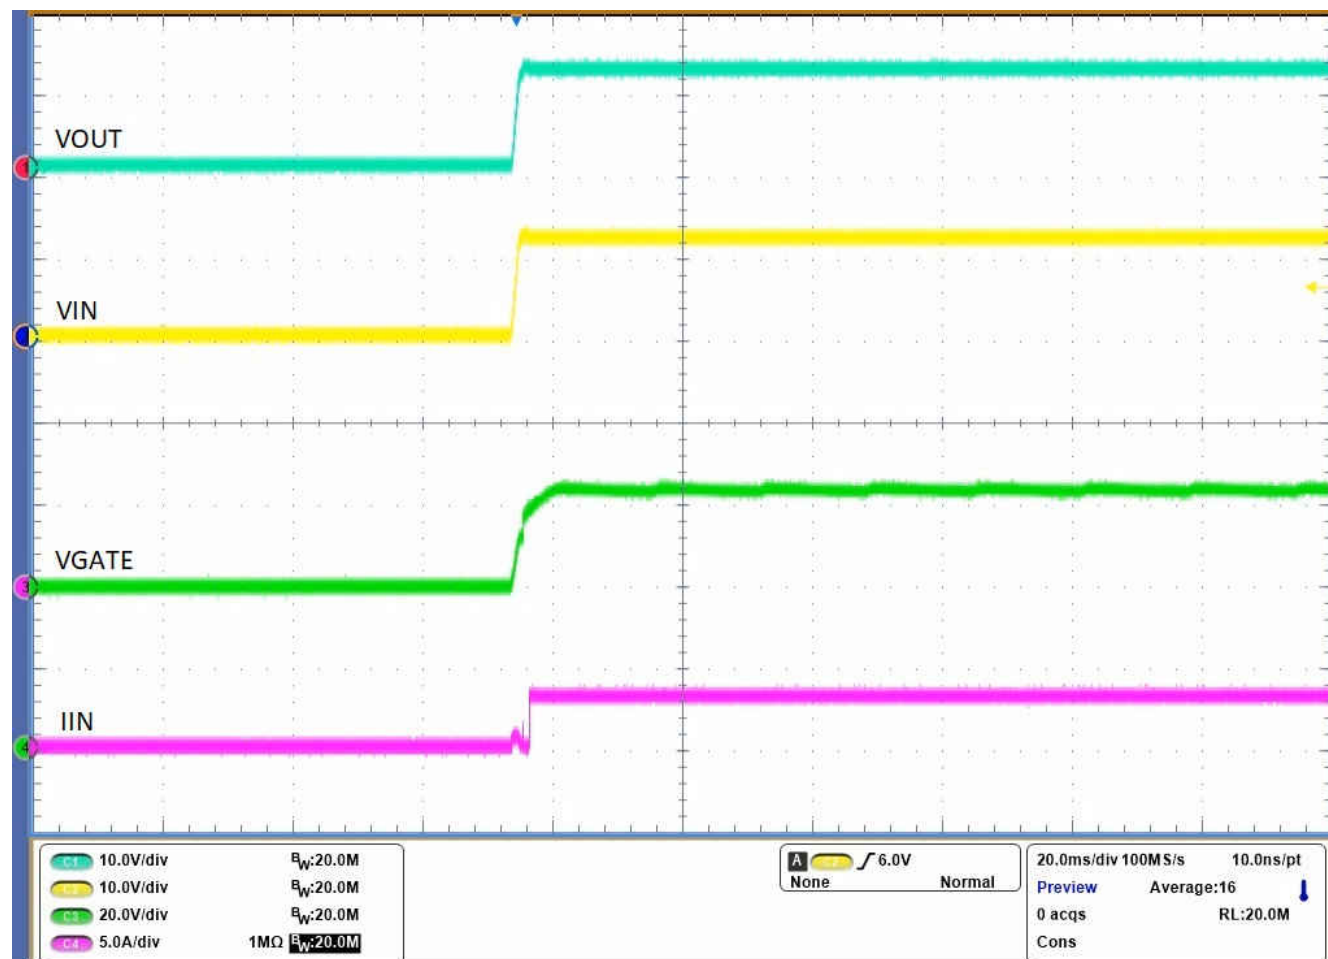

Figure 3-1. LM74501-Q1EVM Startup
- Figure 3-1 shows the input voltage (CH2) rises from 0 V to 12 V and the gate voltage (CH3) comes up after input voltage crosses device PoR threshold.